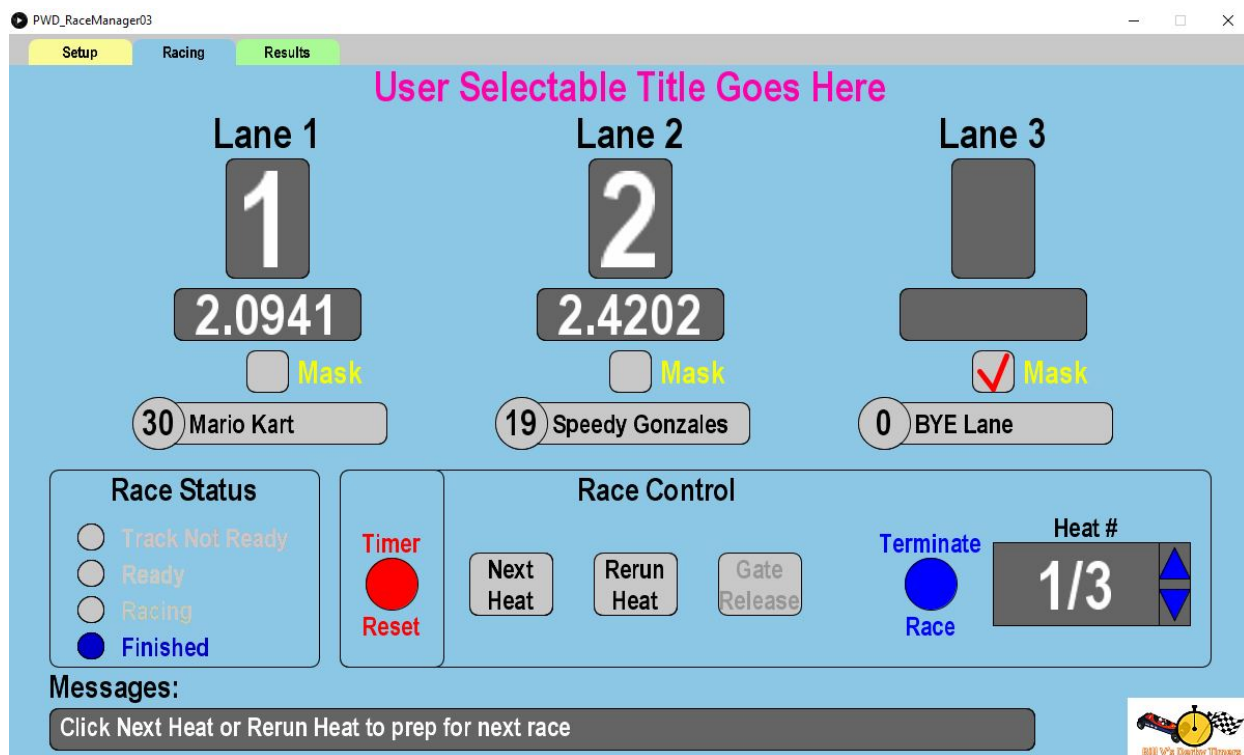

Figure 10 –Lane Mask Example
Lane Mask Checkboxes	<ul style="list-style-type: none">• Alternately displays or clears a check-mark in the checkbox each time it is clicked (See Figure 10).• Sends the appropriate lane mask and un-mask commands to the Arduino timer.
6. If any lanes are designated as a BYE lane a check-mark will appear in the appropriate Mask checkbox to designate it as such and "BYE Lane" will be displayed in the name box (See Fig. 10).
The 'Mask' checkboxes alternately display or clear a check-mark in the checkbox each time it is clicked. Manually checking a 'Mask' checkbox should only be done when running a practice heat in which less than 3 cars are racing. When checked, it sends the mask command for that lane to the Arduino timer. When unchecked it sends the unmask command for that lane to the Arduino timer. The Arduino timer will ignore any masked lanes (i.e. not wait for them to time out) while the race is in progress. Figure 10 shows an example of an automatically checked lane mask box when the automatically generated race plan includes a BYE lane designation in a heat.